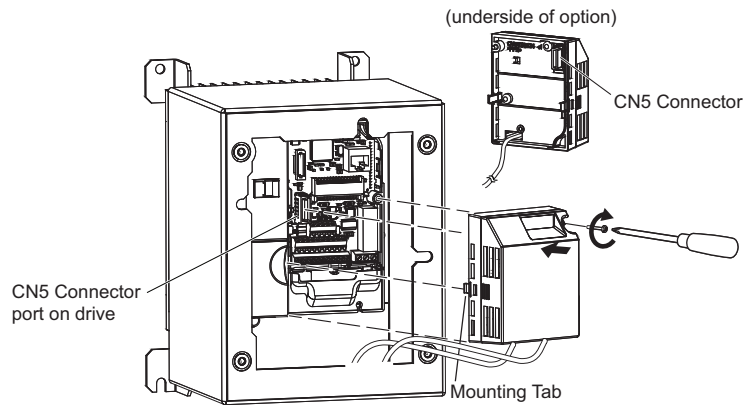

Figure 28 Attach Option to IP66/UL Type 4X
27. For IP66/UL Type 4X enclosure models, attach the option to the drive by aligning the two mounting tabs on left and right side of the option with slots on the drive. Plug-in the CN5 connector on the back of the option into the CN5 connector on the drive. Tighten the screw in the front of the option (see **Figure 28**).